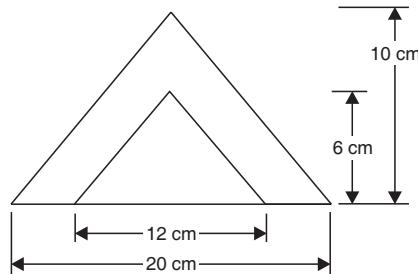

Fig. 8.39
8. Find the centroidal axis of the lamina shown in Fig. 8.39 parallel to the base. Find also the moment of inertia about this centroidal axis.